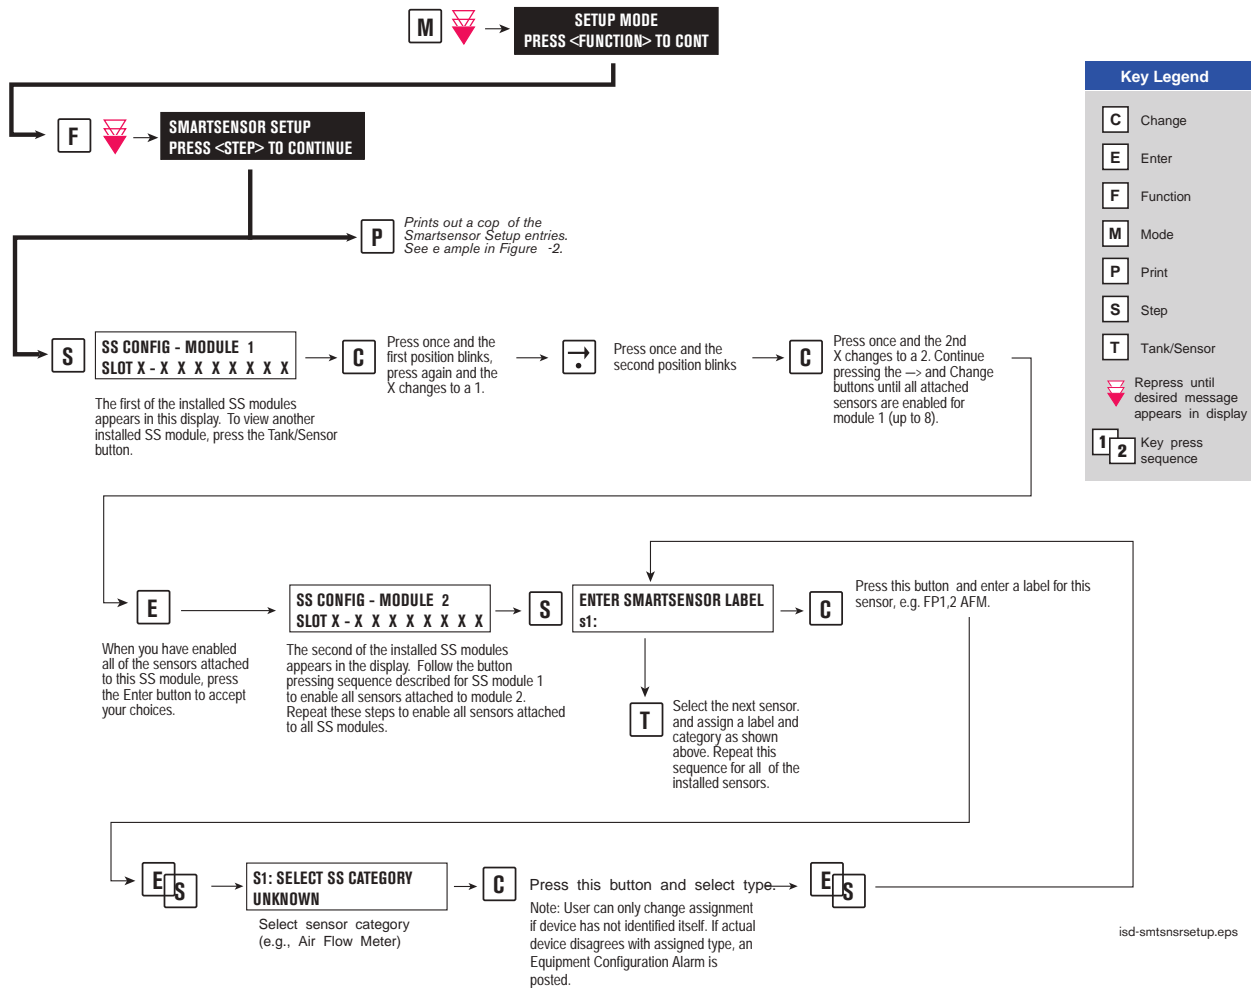
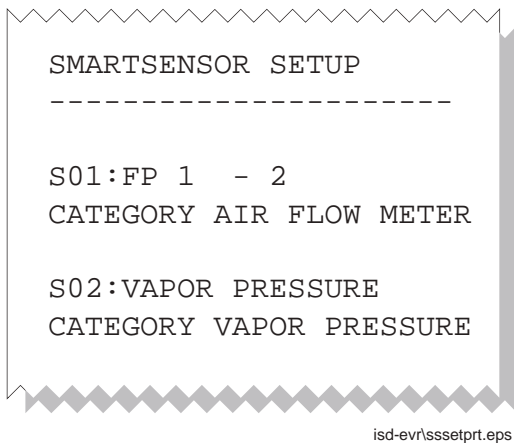

Figure 3. Smart Sensor Setup
Figure 4. Smart Sensor Setup Printout Example
- Smart Sensor Setup - All ISD sites - Figure 3
The Smart Sensor Interface Module is installed in the Intrinsically-Safe bay of the TLS console. This module monitors Air Flow Meters and the Vapor Pressure Sensor. Figure 3 diagrams the Smart Sensor setup procedure. Figure 4 shows a printout of the Smart Sensor setup.